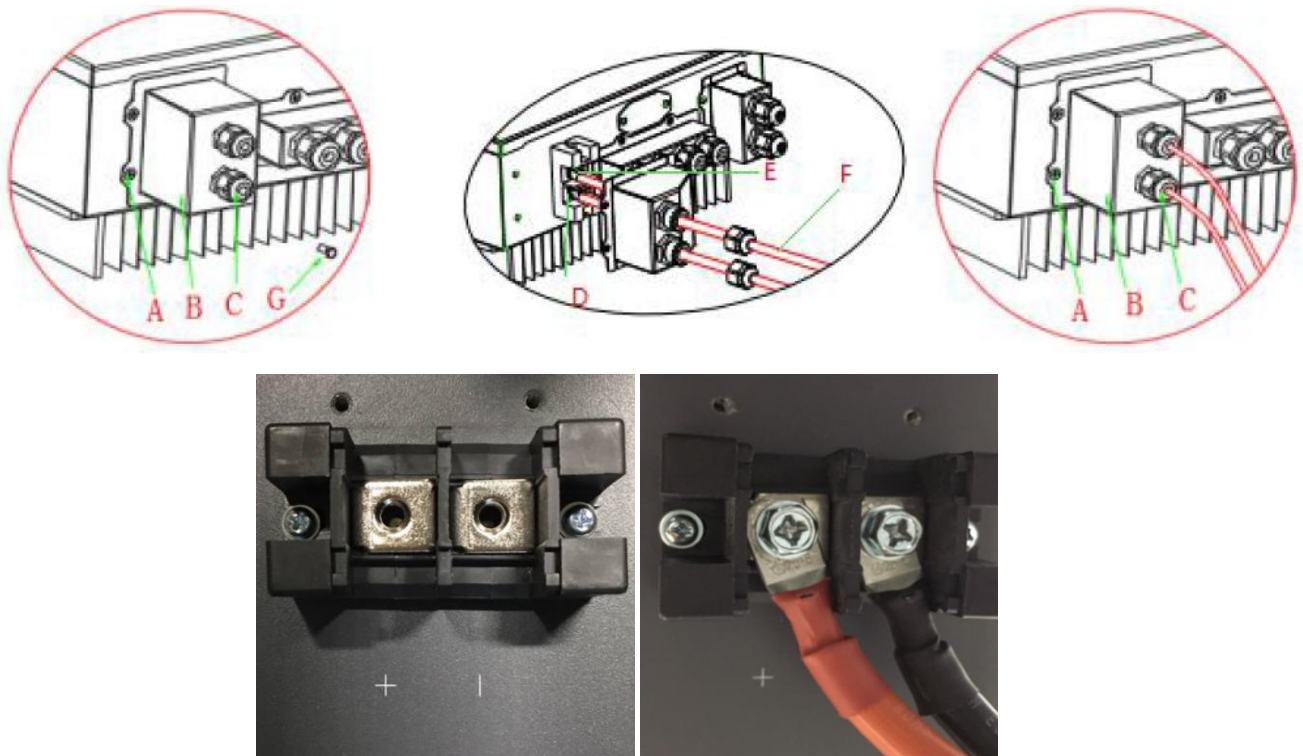

Figure 10 - Connecting the power line of the battery
1. Unscrew the 4 screws of the cover (A) with a star screwdriver (figure 10).
2. Remove the waterproof cover (B), loosen the cable gland (C), and then remove the stopper (G).
3. Route the battery cables (F) through the cable gland, then connect them using the OT terminal (E) supplied; the terminal must be screwed to the terminal block using the special star screws. The other end of the cable, which has the quick coupling for the batteries, must be positioned in the relative positive and negative terminals of the installed battery.